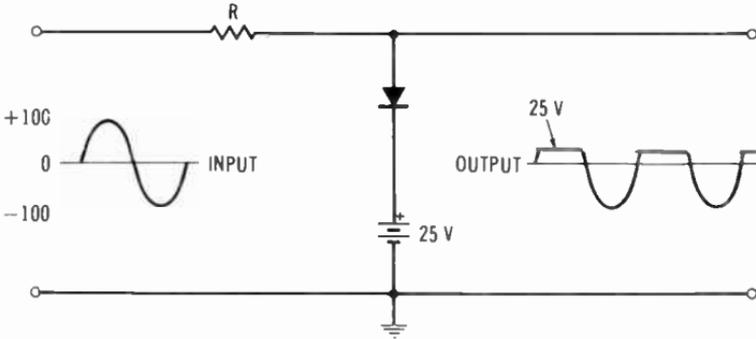

Fig. 7-19. A limiter circuit.
- Q7-30.** How could the limiter circuit in Fig. 7-19 be used for negative limiting?